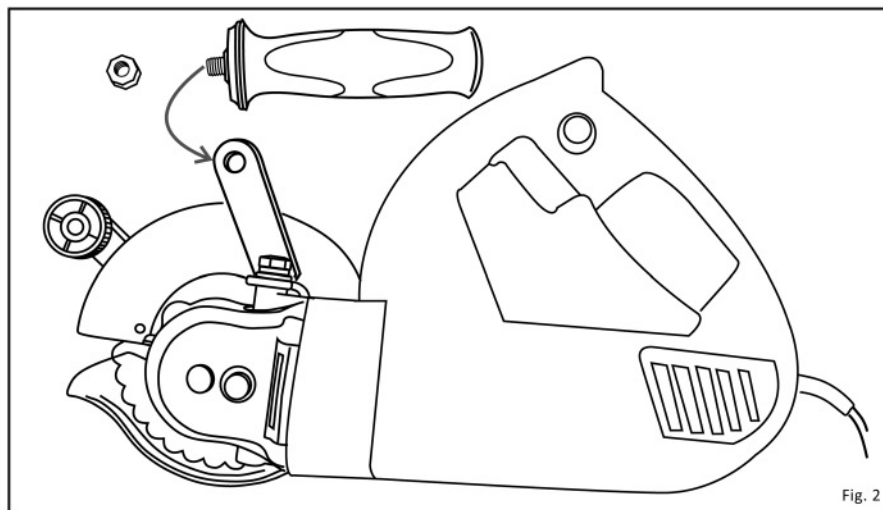

Fig. 2
- Screw front grip into saw as shown in figure 2.